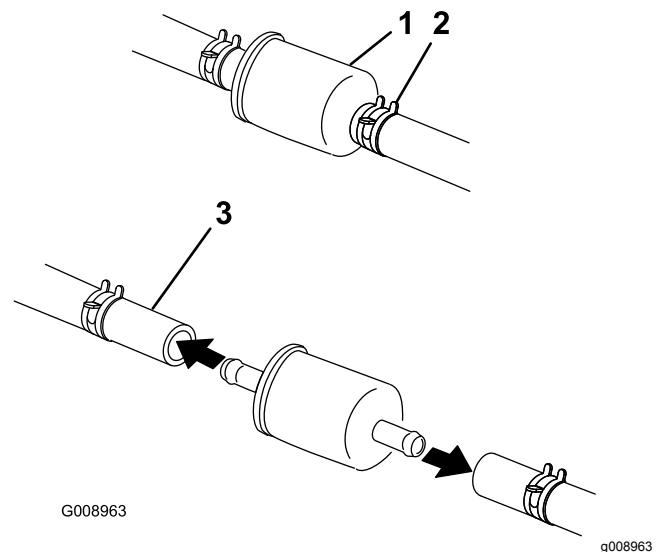

Figure 62
4. Close the fuel-shutoff valve under the seat (Figure 62).
5. Squeeze the ends of the hose clamps together and slide them away from the filter (Figure 62).
7. Install a new filter and move the hose clamps close to the filter (Figure 62).